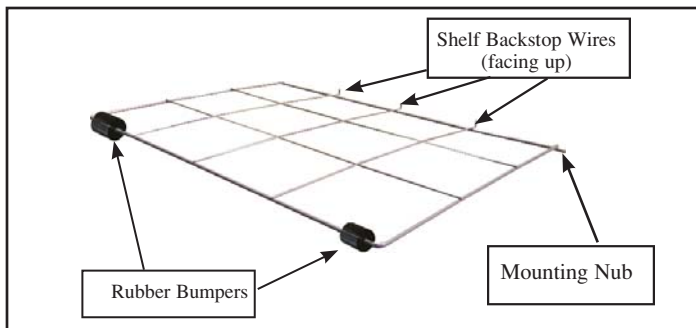

Figure 6. Install Trays with backstop wires facing up (pictured with bumper, which is usually installed after all the shelves are in place).
2. Follow the same procedure for each of the standard shelves (Figure 6), working up from the bottom. Be sure all backstop wires are extending upward.
4. Snap one rubber bumper to the edges of each shelf, left and right (Figure 6), including the bottom shelf. Install all bumpers in the same position and align them above one another so the shelves remain level to the base. Your rack is now assembled and ready for use.